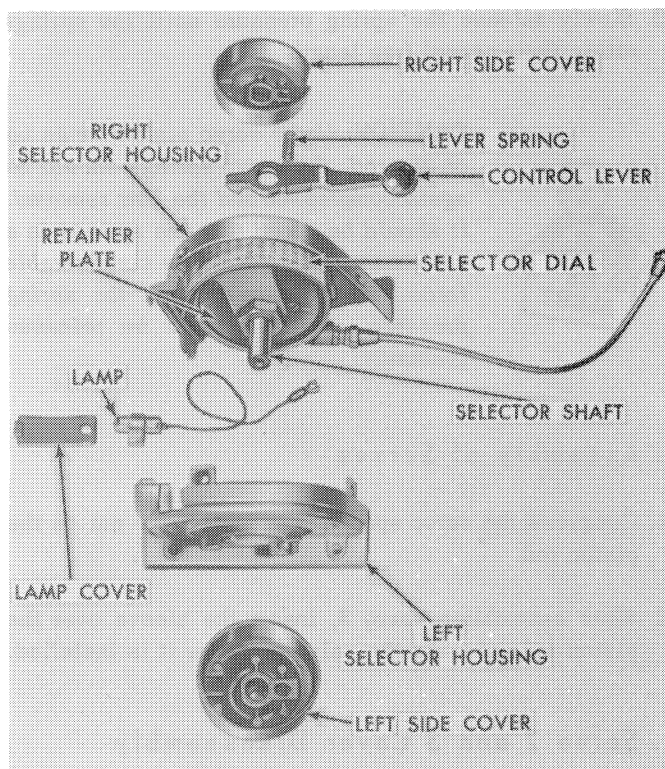

Figure 97
1. Remove the two side covers, lever, spring, lever assembly, and three screws to separate the selector assembly, as shown in Figure 97.